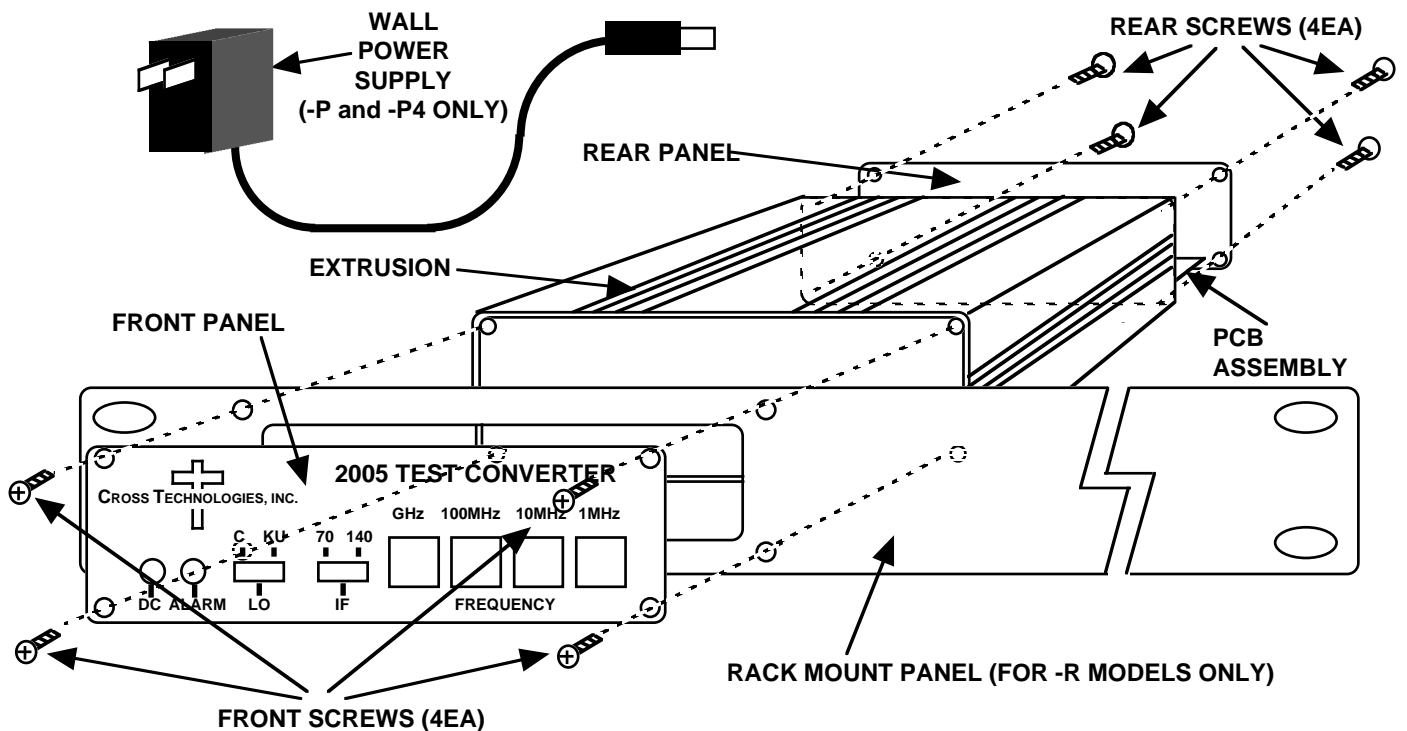

FIGURE 2.3 2005 Assembly Drawing
The 2005 is packaged in an aluminum extrusion. The **-R option** is mounted on a 1 3/4" X 19" panel that can be mounted to a rack using the 4 holes at the ends. The unit derives +DC from the RF out center conductor (+15 to +20 VDC) or the wall power supply (+15V unregulated, **option -C, -P4**). See Figure 2.3.
2. Remove four (4) rear panel screws (see Figure 2.3).
5. Install four (4) rear panel screws.